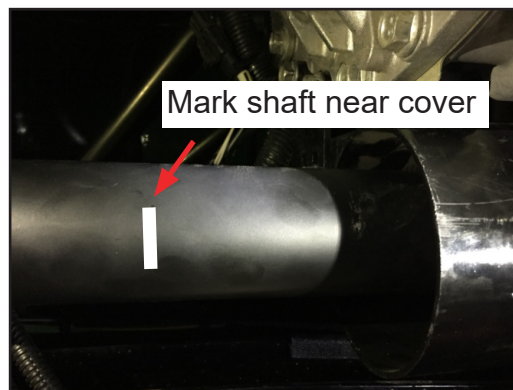

Figure 2
- Use a machinist's marker to mark a location on the shaft near the cover (location not critical) (Figure 2).